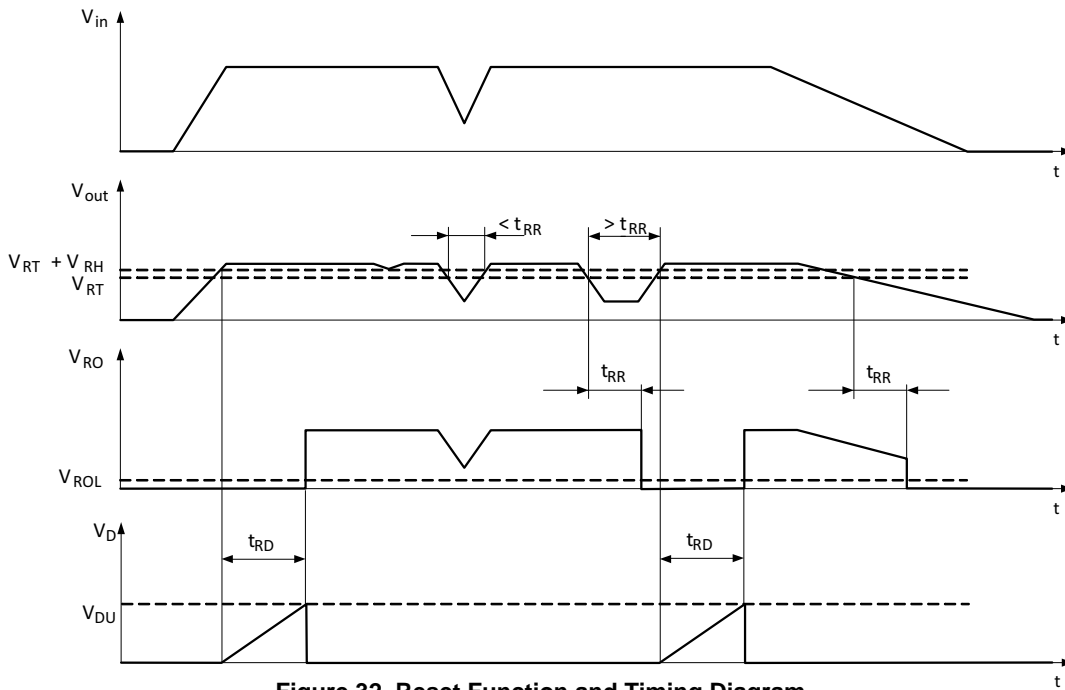

Figure 32. Reset Function and Timing Diagram
A reset signal is provided on the Reset Output (RO) pin to provide feedback to the microprocessor of an out of regulation condition. The timing diagram of reset function is shown in Figure 32. This is in the form of a logic signal on RO. Output voltage conditions below the Reset threshold cause RO to go low. RO is pulled up to Vout by an external resistor, typically 5.0 kΩ in value. Output voltage regulation must be maintained for the delay time before the reset output signals a valid condition. The delay for the reset output is defined as the amount of time it takes the timing capacitor on the delay pin to charge from a residual voltage of 0 V to the upper timing threshold voltage VDU of 1.3 V. The charging current for this is ID of 4 μA and D pin voltage in steady state is typically 0 V. By using typical IC parameters with a 47 nF capacitor on the D Pin, the following time delay is derived: